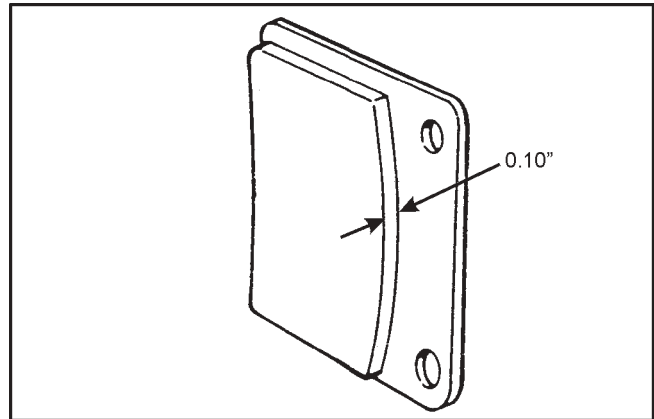

Figure 7-25. Brake pad wear, hydraulic brakes
- the brake lining material molded to each metal backing plate is worn to 0.10" thickness. (Figure 7-25)